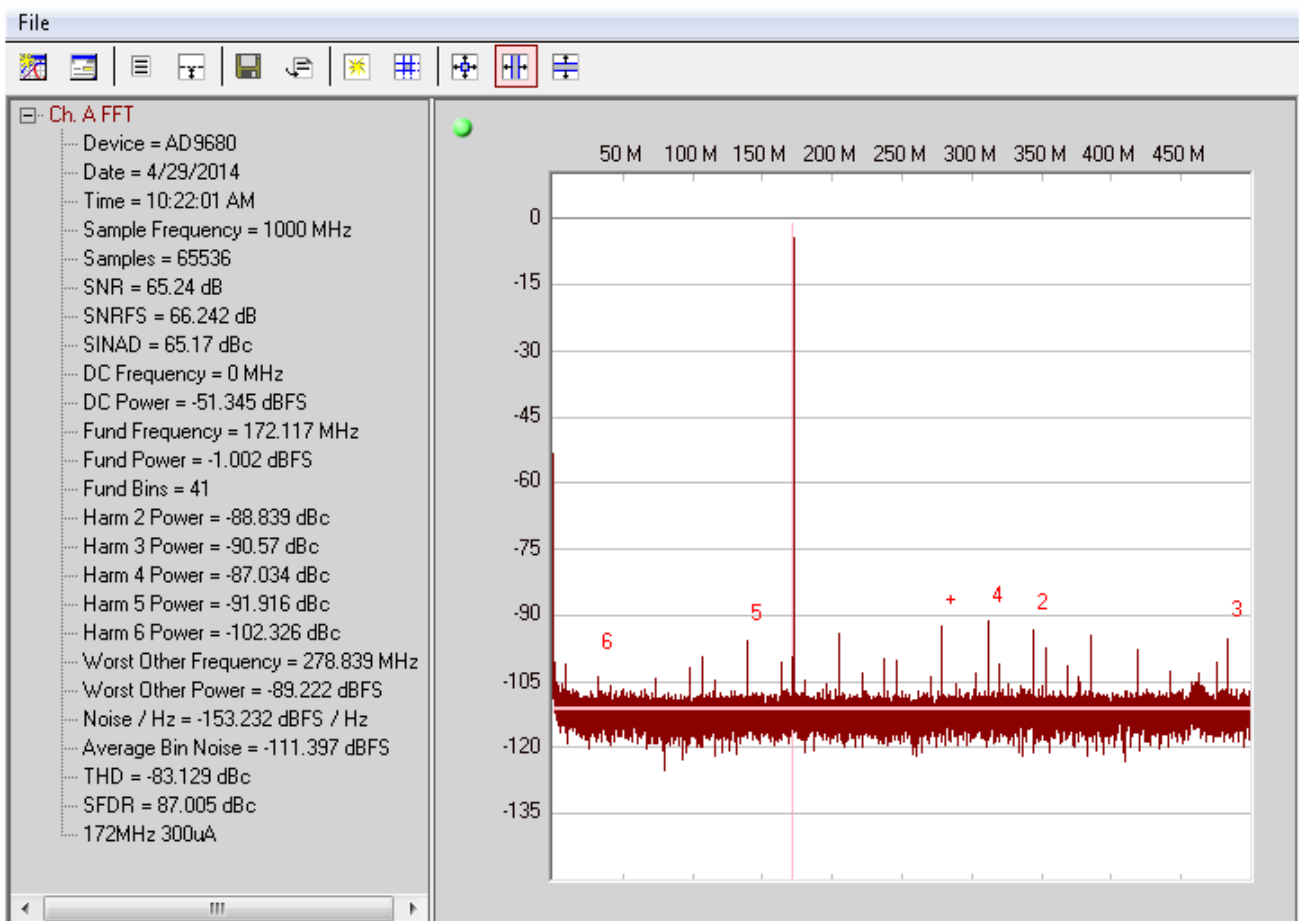

Figure 13. AD9680-1000 FFT at 170MHz Analog Input
1. Click the Run button in VisualAnalog , you should see the captured data similar to the plot shown in Figure 13.